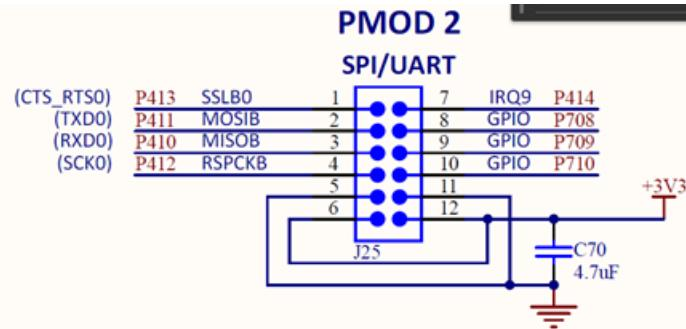

Figure 13. PMOD Connection
3. Connect jumpers between P1_00 and FD0_SCLK_DA, P1_01 and FD1_DI_DA, P1_02 and FD2_D0_DA, P1_03 and FD3_CS_DA. PMOD Connections between J219 and PMOD2 shown in Figure 13.